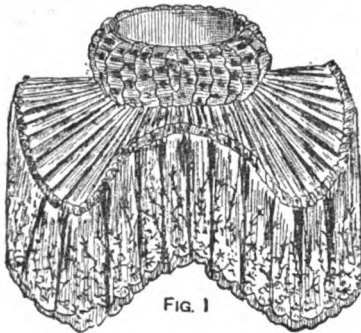
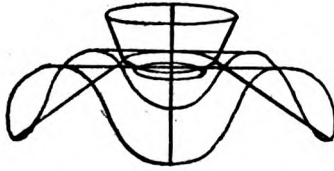

FIG. 1
FIG. 2
**Lamp Shade.**—Fig. 1 shows a lamp shade trimmed and Fig. 2 the frame. The stretchers will be 6½ in. long,